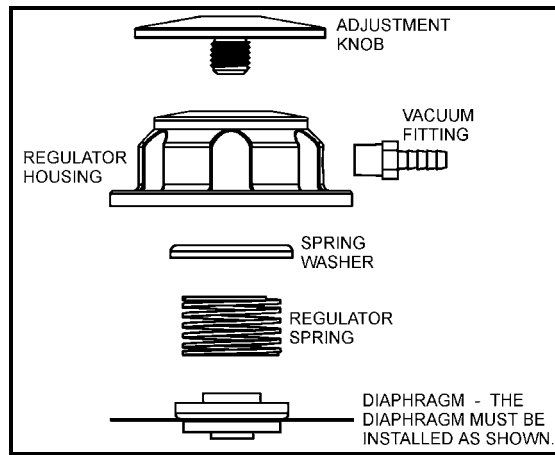

Figure 1
The fuel pressure regulator in this instruction sheet is designed to be an adjustable replacement for the stock O.E. regulator. The adjustable fuel pressure regulator is used mainly for high performance applications. A fuel pressure gauge must be purchased for setting the fuel pressure. Install the fuel pressure gauge according to the manufacturer's recommendation. The Holley TPI adjustable fuel pressure regulator kit will reuse the torx screws and base. DO NOT discard or damage these items during disassembly. Use Figure 1 as a guide for assembling the kit. It will also be necessary to purchase new Plenum to intake runner gaskets GM P/N 10174951, for this installation.
7. To ease the installation of the Holley fuel pressure kit, remove the adjustable knob from the regulator cover. Place the spring washer inside the Holley regulator cover, then the spring, and finally the diaphragm. It is very important for the diaphragm to be installed as shown in Figure 1.